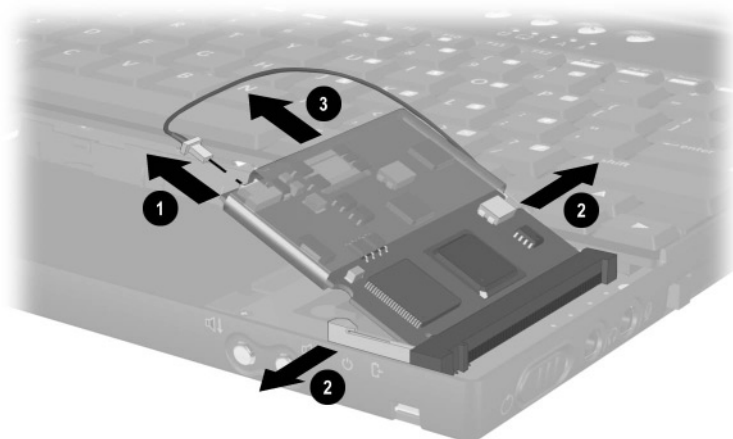

Figure 5-16. Removing the Modem/NIC Board
3. Disconnect the modem/NIC cable from the modem/NIC board ❶ (Figure 5-16).
4. Pull away the retention clips on each side of the modem/NIC board ❷. The modem/NIC board tilts upward.
5. Lift the edge of the modem/NIC board and slide it out of the connector at a 45-degree angle ❸.